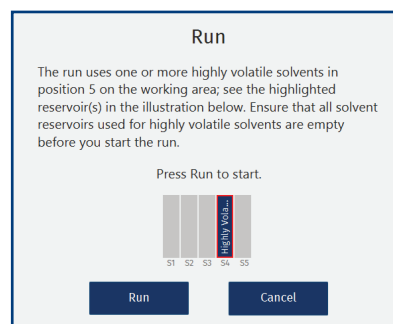

Figure 48. The Run dialog when using a highly volatile solvent in reservoir S4 on the working area.
38. When a highly volatile solvent is assigned to a solvent reservoir in position **5**, its position is highlighted in the **Run** dialog (see Figure 48). Ensure that all highlighted reservoirs are empty.